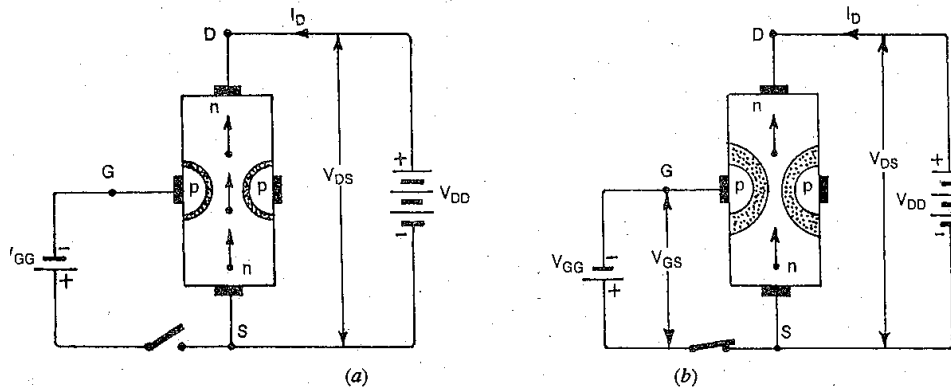

Fig. 81.1
**Marks (7)**
**Ans:** **Principle of Operation of N-Channel JFET:** The circuit diagram of an N-channel JFET with normal polarities is shown in fig. 81.1
When a voltage  $V_{DS}$  is applied across the drain and source terminals and voltage applied across the gate and source  $V_{GS}$  is zero (i.e. gate circuit is open) as shown in above fig. 81.1(a), the two PN junctions establish a very thin depletion layer. Thus a large amount of electrons will flow from source to drain through a wide channel formed between the two depletion layers.
When a reverse voltage  $V_{GS}$  is applied across the gate and source as shown in above fig. 81.1(b), the width of the depletion layer is increased. This reduces the width of the conducting channel thereby decreasing the conduction (flow of electrons) through it. Thus the current flowing from source to drain depends upon the width of the conducting channel which depends upon the thickness of depletion layer. The thickness of depletion layer established by the two PN junctions depends upon the voltage applied across the gate-source terminal. Hence, it is clear that the current from source to drain can be controlled by the application of potential (i.e. electric field) on the gate. That is why, the device is called Field Effect Transistor.